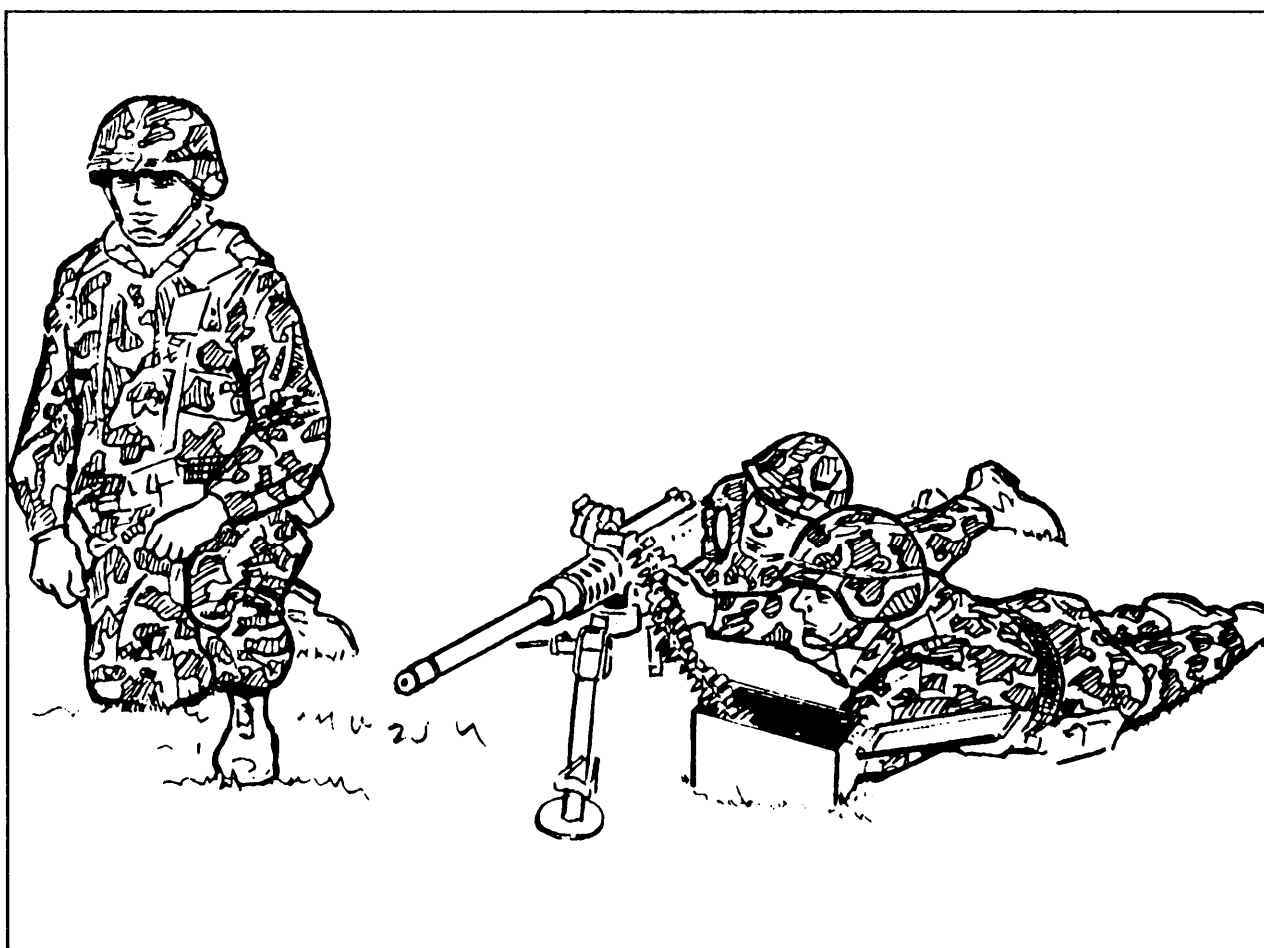

Figure 5-21. Gun mounted, gunner half-loading the gun.
(4) With his right hand palm-up, the gunner grasps the retracting slide handle, vigorously jerks it to the rear, and releases it. The gun is half-loaded (Figure 5-21). He then assumes a prone position directly behind the gun with his legs spread and heels down. His right hand lightly grasps the right spade grip with the thumb in position to depress the trigger. His left hand is on the elevating handwheel (palm down) with his thumb near the traversing slide lock lever. He rests on his left elbow with his head as close as possible to the rear sight (Figure 5-22, page 5-30). He then gives the assistant gunner an UP. The assistant gunner announces UP and extends his hand and arm into the air in the direction of the leader.